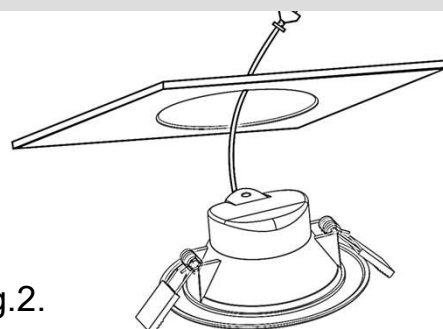

Fig.2.
- Feed the supply cord through the ceiling hole and connect the downlight plug to the socket outlet in the ceiling. (Fig.2.).